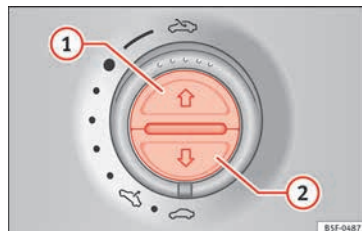

Fig. 137 On the interior roof lining: switches for the sun blind.
Opening completely (automatic function)	Press button » Fig. 137 ① briefly.
- *Sun blind*: Within five seconds of triggering the anti-trap function, press button » **Fig. 137**  until the sun blind closes fully.